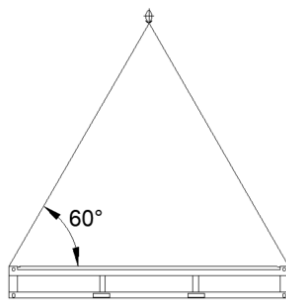
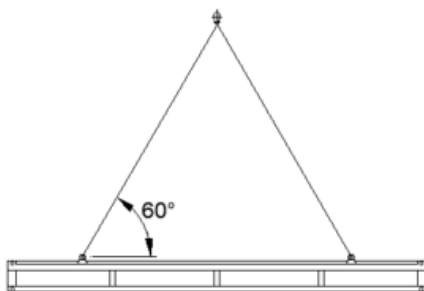

Fig. 1
Fig. 3
- 10', 16', 20' and 24' cabins and/or flatpacks can be lifted by fork lift (minimum length of forks 2450 mm, minimum width 200 mm) or by crane. Slings must be fastened to the upper corners of the cabin (10', 16', 20') or the eyebolts/crane eyes (24') The angle between the slings/chains and the horizontal line must be a minimum of 60° (Fig. 1 or Fig. 3). The required sling/chain length for a 20' cabin is at least 6.5 m.